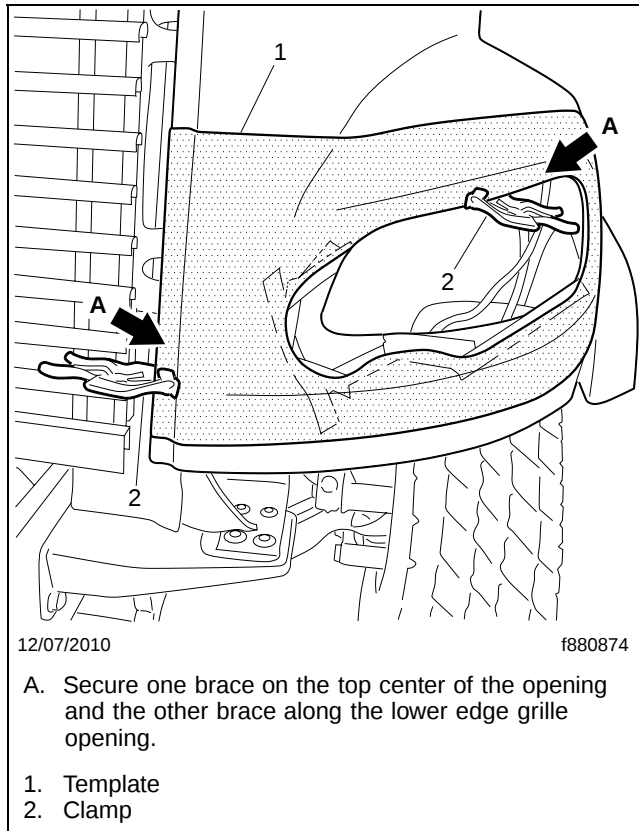

Fig. 5, Securing the Template to the Headlight Opening
8. Position the appropriate template over each headlight assembly and secure it with two clamps. See **Fig. 5**. Secure one clamp on the top center of the opening, and the other clamp along the lower edge of the grille opening.